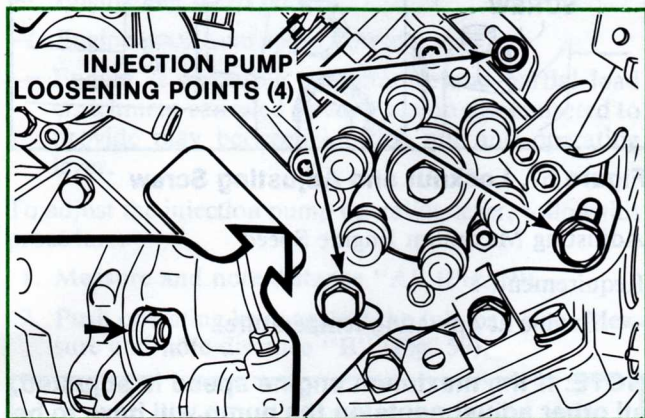
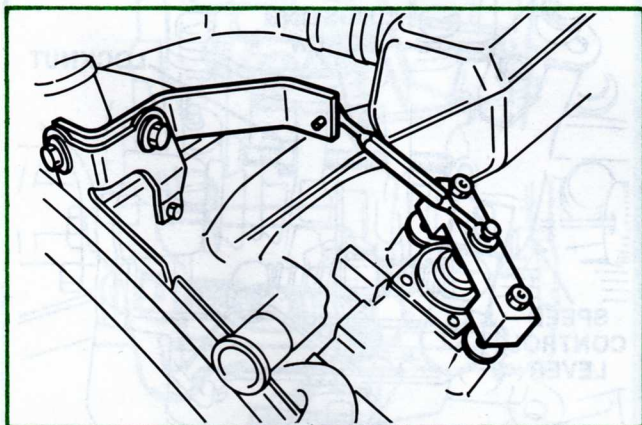

Figure 54. Injection Pump Loosening Points
Figure 55. Injection Pump Rotating Tool
3. If the injection pump timing is not correct, shut the engine off, loosen the injection pump mounting bolts (Fig. 54); and install special tool T84P-9000-B and bracket (Fig. 55) to turn the injection pump.